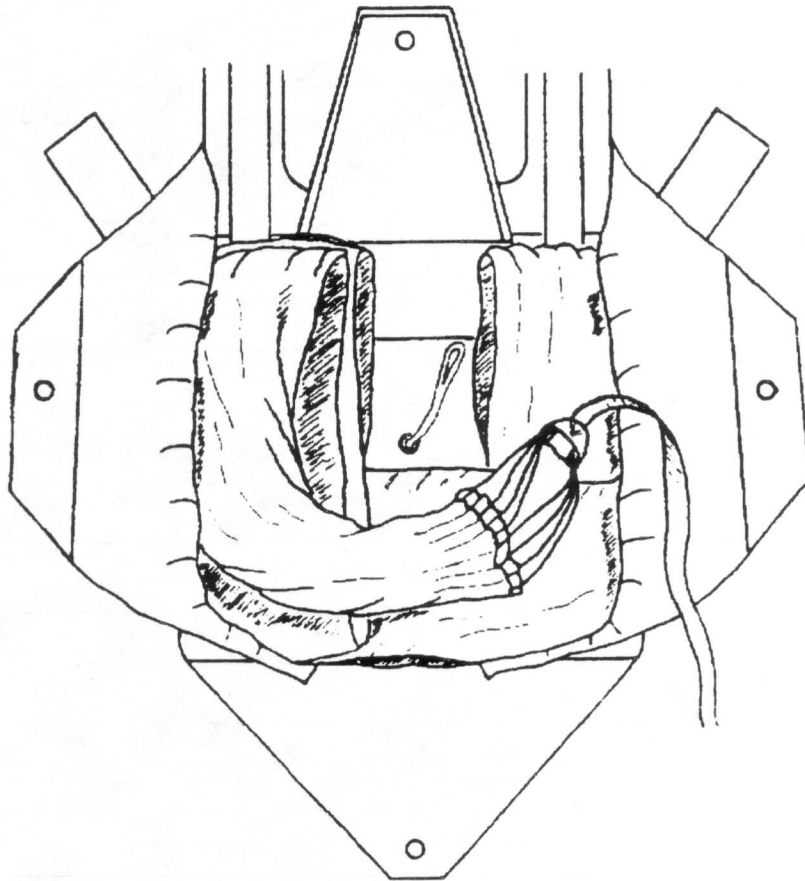

FIG. 6
- 7) Make two folds up and down the left side of the container, keeping the bulk away from the center as much as possible. The rigger may at this point make another fold across the bottom in order to distribute the bulk evenly side to side (FIG. 6). The object is to form a "U" shaped stack with the canopy so that the pilot chute will seat itself in the "nest" formed by the side flaps after they have been closed.